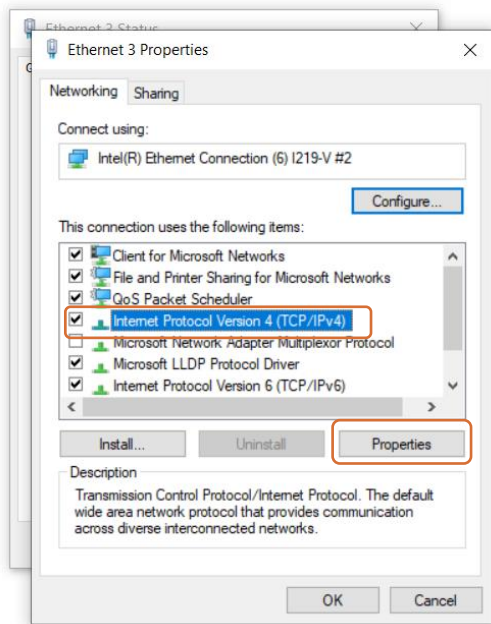

Figure 8: Setting the IP – Connection properties
3. From the list choose “Internet Protocol Version 4 (TCP/IPv4)” and then press “Properties” (see Figure 8).